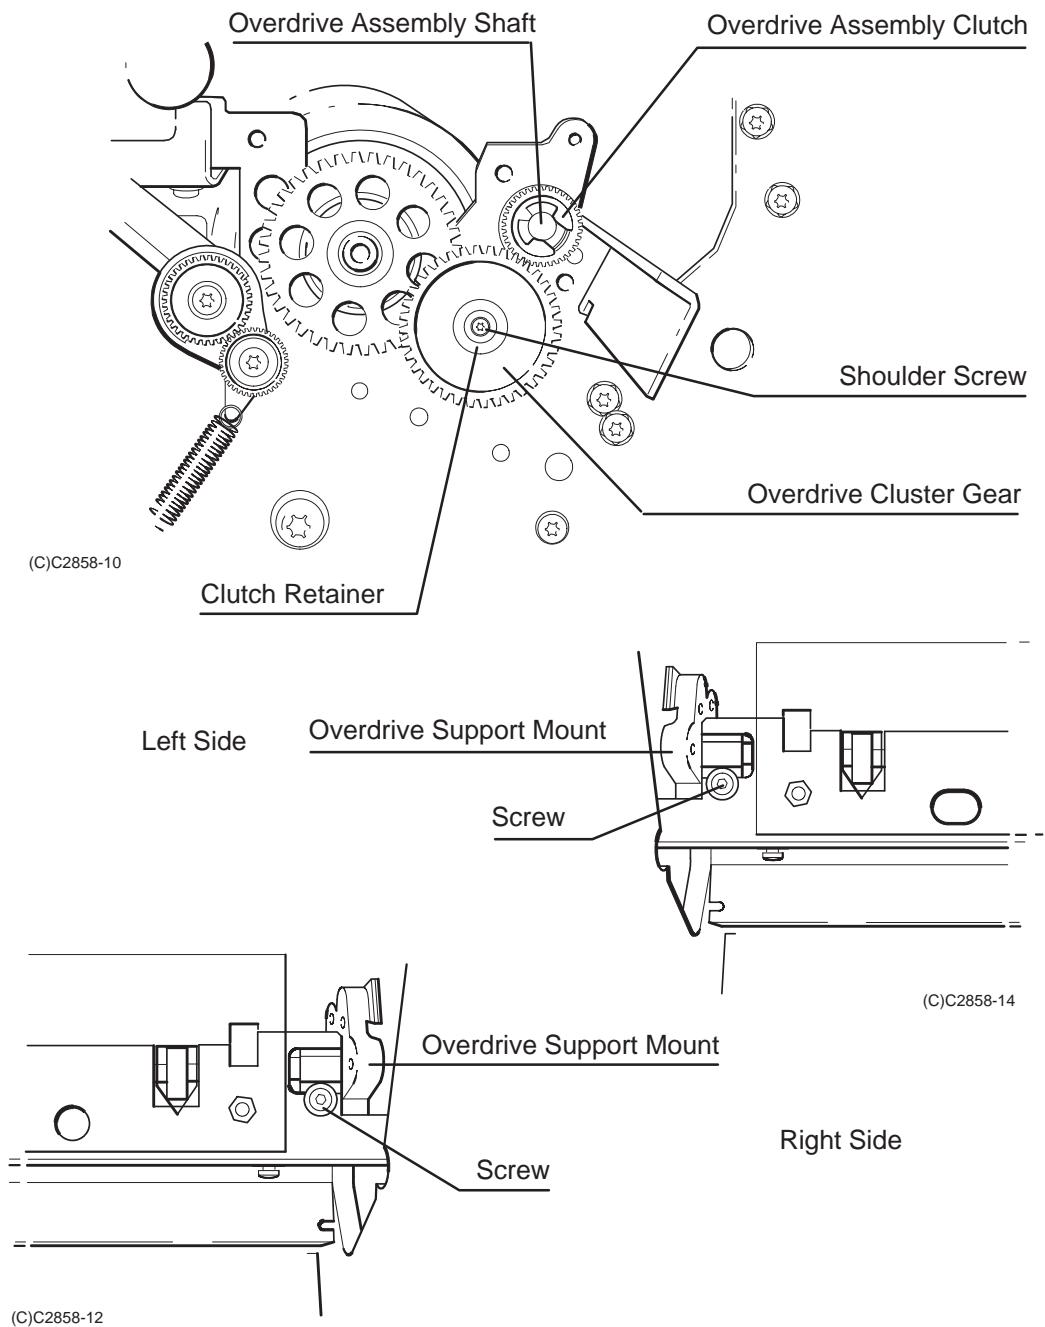

Figure 6-31.
8. Using a TORX T-15 screwdriver, remove the gear shoulder screw that secures the overdrive cluster gear to the left sideplate. See Figure 6-31.